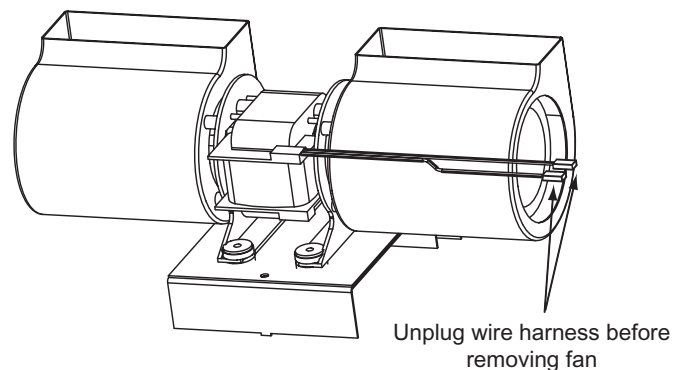

Figure 30B - Fan Motor
2. Lift fan off of studs and remove. Repeat for second fan if necessary. See Figure 30B.